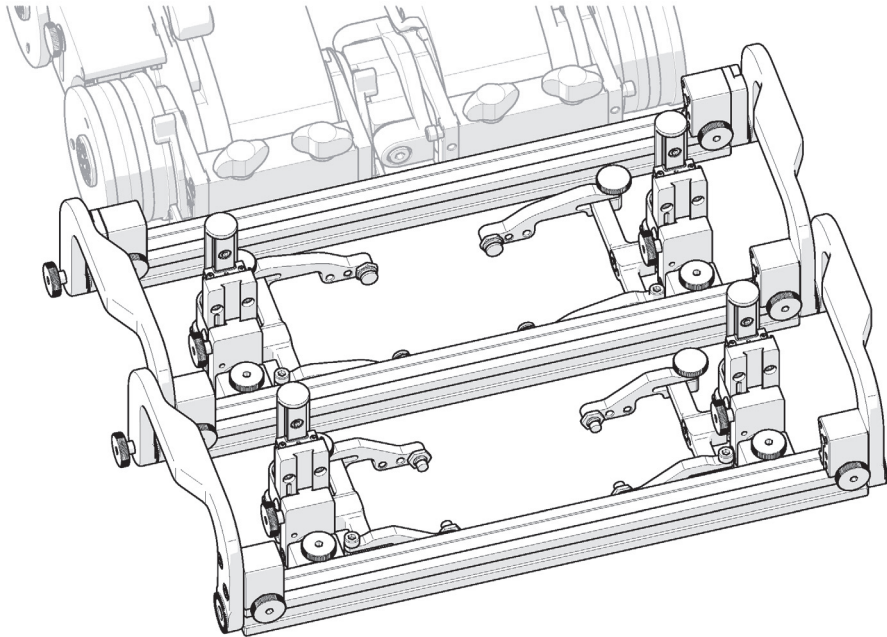

Figure 2-105 Probe holder frame
The probe holder frame adds weld scanning capabilities to the SteerROVER motorized scanner (see Figure 2-105 on page 127). This frame uses four (4) vertical probe holders. Additional frame components allow up to six probes to be used.